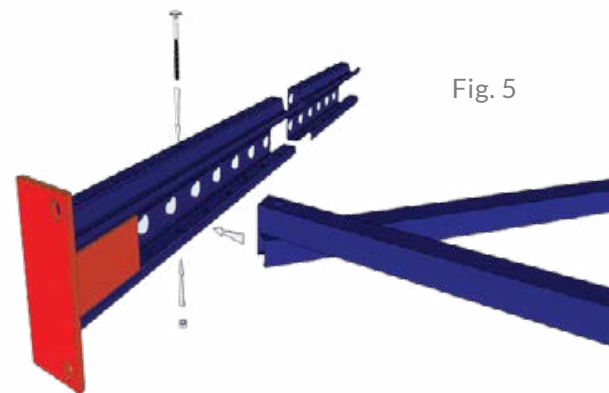

Fig. 5
Step 5 | Next, bolt through horizontal and diagonal brace - no spacer required.(Fig. 5)